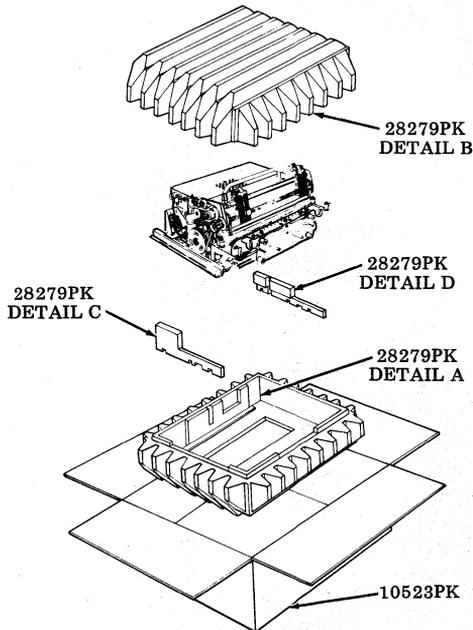

Fig. 4—Printer Carton and Pack
2.03 80-Column — Open carton and remove pack. Remove printer from polysterene pack (Fig. 4).